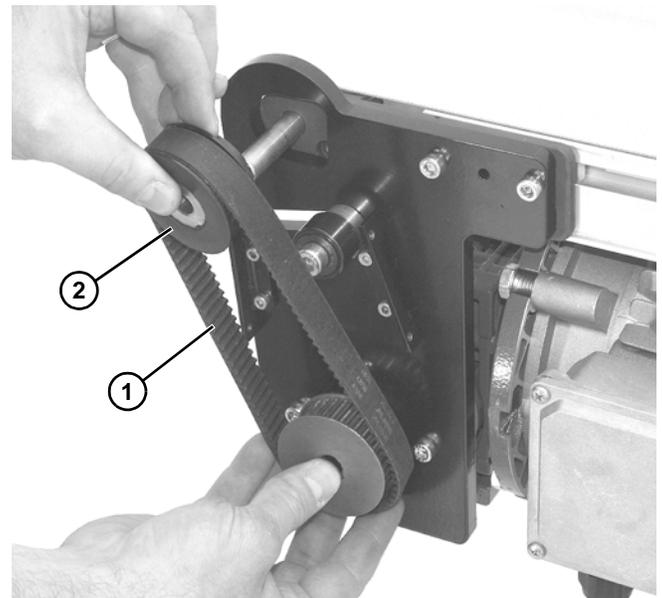

Figure 22
3. Remove timing belt (**Figure 22, item 1**).
<p>If timing belt does not slide over pulley flange, loosen driven pulley (Figure 22, item 2) set screws and remove pulley with belt (Figure 22, item 1). For re-installation, see steps 7 and 8 on page 14.</p>